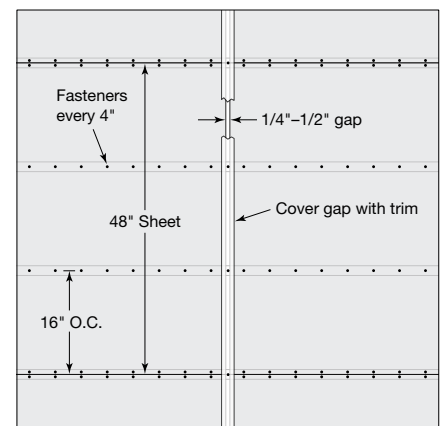

Fig. 7
- Klear sheets 3/4" thick or greater require fastening every four inches along no more than 16" on-center framing across the width of the sheet (Fig. 7).